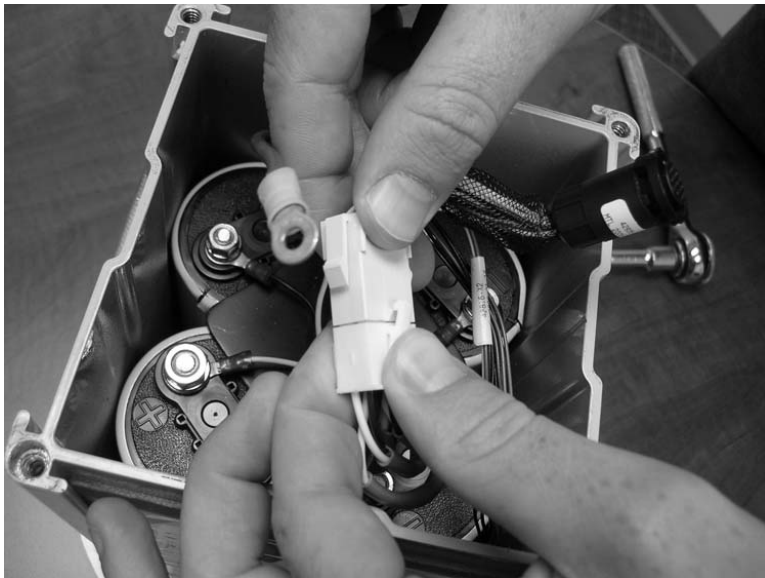

Figure 11-5: Disconnecting the Battery Harness
8. Disconnect the battery harness; see Figure 11-5.